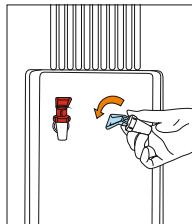

Figure 37
6. Remove the faucets from the reservoir elbows by turning them counter clockwise. (Figure 37)